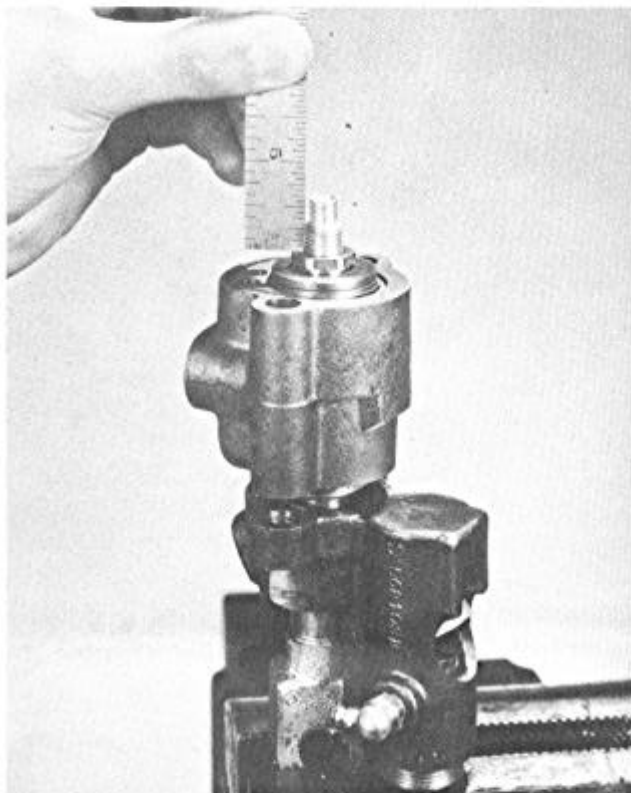
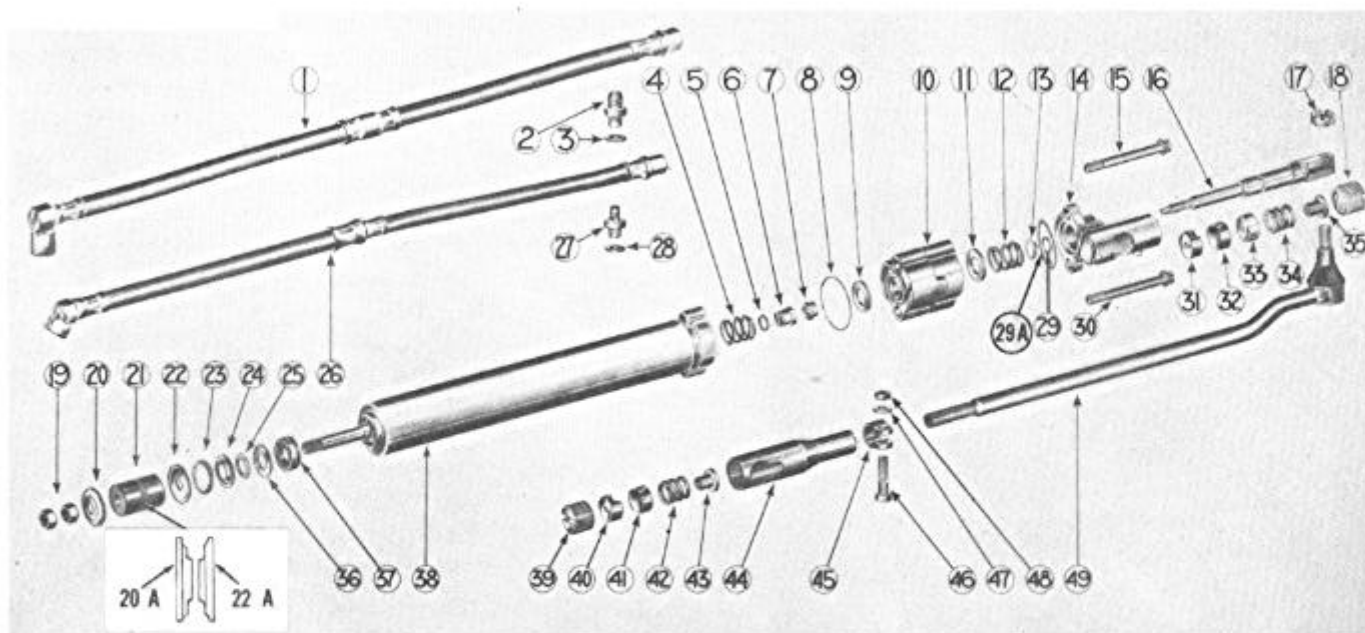
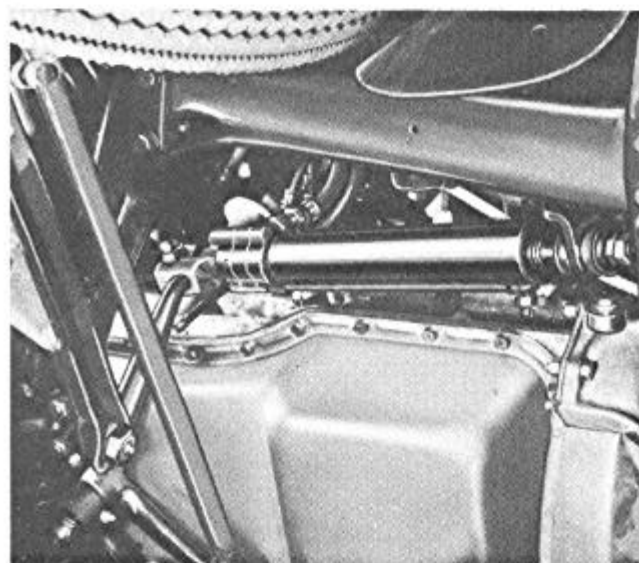

FIGURE 18
FIGURE 19
FIGURE 22
- B. Remove the scraper back up ring (24), Figure 19.
- C. Remove the scraper (25).
- D. Remove the seal back up ring (36).
- E. Remove the piston rod seal (37).
5. Remove the valve centering spring (4), Figure 19.
6. Remove "O" ring (8) from pilot locknut (6).
7. While holding the spool shaft nut (7), remove pilot locknut ( $11/16$ " wrench).
8. Remove spool shaft nut (7), ( $11/16$ " wrench).
9. Remove control valve assembly (10) with spools from valve shaft (16).
10. Remove valve washer (9) from valve shaft.
11. Remove "O" ring seals (8) and (29A) from each end of valve body.
13. Remove pressure fitting (27), Figure 19, return fitting (2), seals (3) and (28) from valve housing. DO NOT place housing in a vise.
14. Remove valve washer (11).
15. Remove valve return spring (12).
5. Install "O" seal (29A), Figure 19, in circular housing groove.
7. Install valve washer (9), Figure 19, over valve shaft.
9. Install shaft nut (7), Figure 19, until a definite resistance is met. Back off nut 1/2 turn. A minimum a 5/16" of thread should be showing beyond the outside nut, Figure 18.
15. Install the "O" ring seal (5) on pilot locknut (6), Figure 19.
16. Remove the two cap screws and nuts used in operation (11).
17. Install valve spring (4), Figure 19.
18. Insert housing seal (8) in the contoured ring groove in the valve housing (10).
21. Install valve fittings (2) and (27) and seals (3) and (28) in their proper places, Figure 19. Assemble pressure and return hose to their proper fittings on valve body assembly.
4. Attach steering arm ball stud housing to center steering arm. Install ball seat (31), Figure 19, on side of center steering arm, enter steering arm ball, ball seat (32), dust seal (33), spring (34), safety plug (35) and end plug (18).
5. Adjust end plug (18) by tightening plug to end of travel and back off to nearest cotter pin hole.
7. Install drag link, nut and cotter pin to valve shaft, Figure 22.